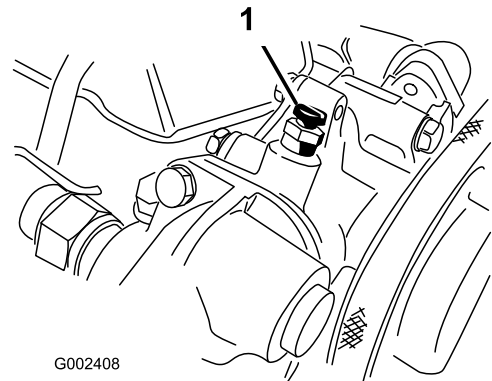

Figure 53
5. Open the bleed screw on top of the water pump (Figure 53).